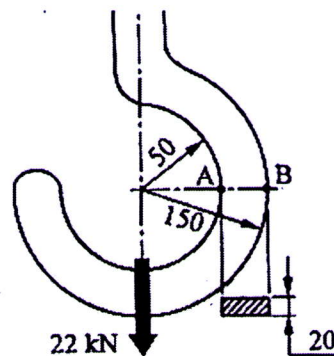

Fig. 3
b) Determine the circumferential stress at points A and B of the crane hook of rectangular cross section shown in the Fig. 3. (6)